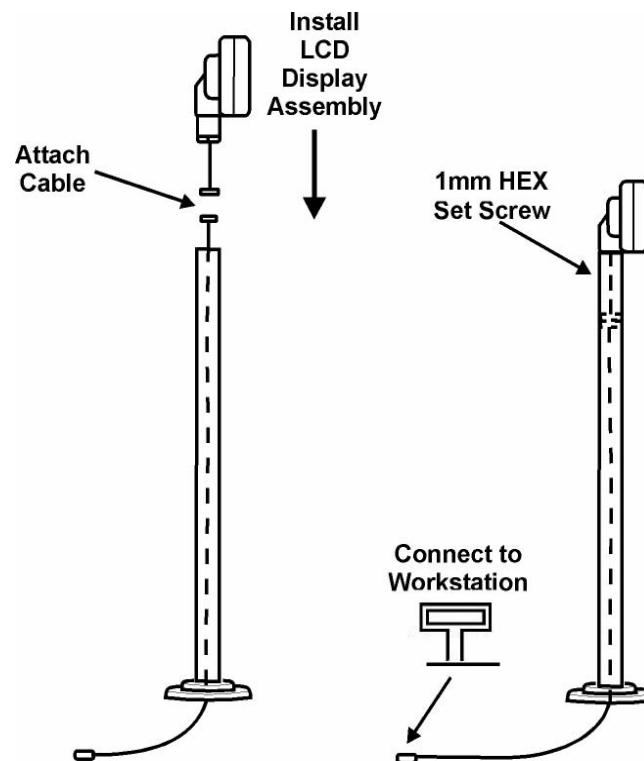

Figure 2-18: Assembling the Pole LCD Display
2. After mounting the base to the counter surface, route the extension cable through the pole and connect the LCD assembly cable. Figure 2-18. Place the LCD assembly on the pole, position the display at the desired position and use a 1mm hex screw to lock the display in place.